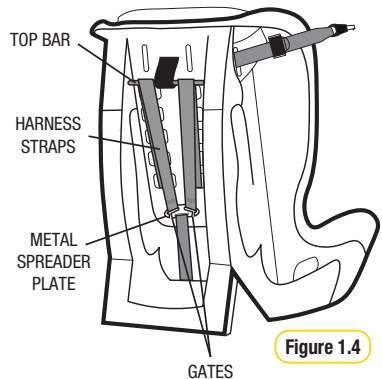

Figure 1.4
- Push the ends of the shoulder harness straps through the appropriate shoulder slot holes in the cover and restraint body for the child's shoulder height (see Figure 1.4).
The shoulder harness straps go from the shoulder slot holes, over the top bar and onto the spreader plate. Thread each shoulder harness strap back onto the metal spreader plate through the gate (see Figure 1.4) .